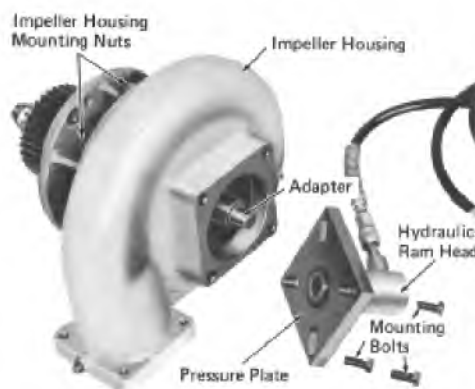

Fig. 10-9 - Impeller Housing Removal
2. Assembly threaded pressure plate, Fig. 10-9, to hydraulic ram head.